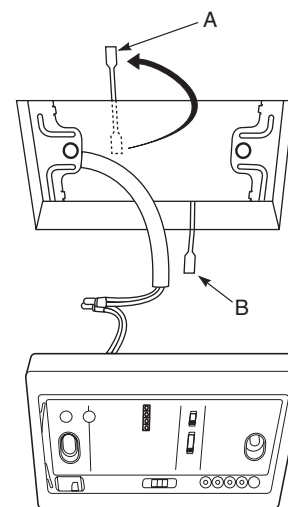
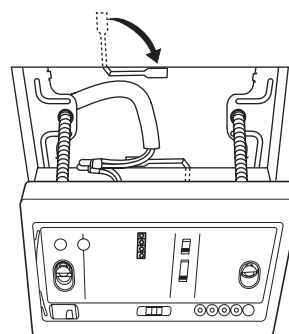

Fig. 5-21
Fig. 5-22
- (4) Fit securely into the ceiling material at sections (A) and (B) as shown in Fig. 5-21.
- (5) Connect the wire (2-wire core) from the signal receiving unit with the wire from the indoor unit. (See section on how to wire the receiving unit.) as shown in Fig. 5-21.
- (6) Use the supplied spacers to adjust for a thickness several inches more than the ceiling material and lightly fasten the receiving unit in place with the small screws (M4x1-9/16", 2 pcs.) supplied with the unit.
- (7) Tighten the machine screws after fitting sections (A) and (B) into the openings, in the gap between the signal receiving unit and ceiling surface as in Fig. 5-22. Do not apply strong force when tightening the screws. Excessive force might warp or damage the cover. When finished, the signal receiving unit should still be able to move slightly when pressed as shown in Fig. 5-22.
- (8) Reinstall the cover plate.